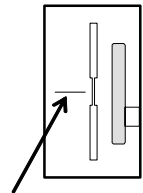
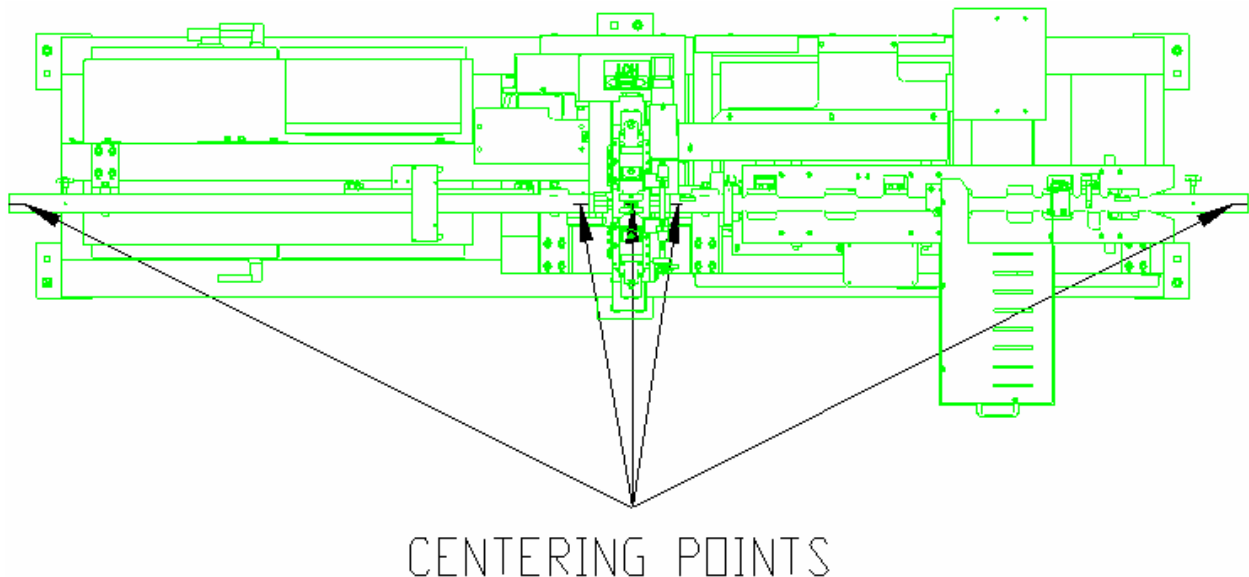

Figure 2
Figure 3
A scribe line should be visible on the bottom nozzle plate and each end of both conveyor tubes from the manufacturer as shown in Figure 3. If not, scribe a line in the center of the bottom nozzle plate as shown in Figure 2 and in the center of the conveyor tubes as shown in Figure 3.
- b. Perpendicular to the main sealant manifold. See Figure 3.